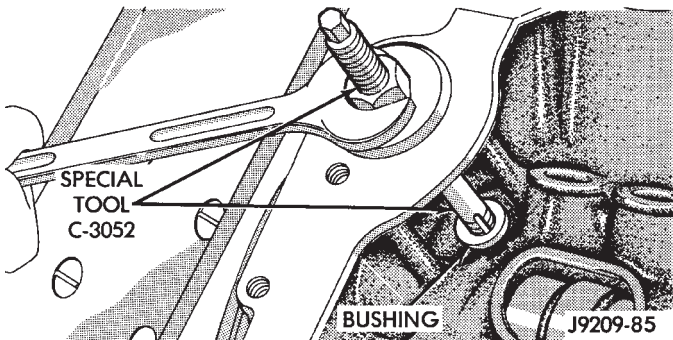

Fig. 27 Distributor Driveshaft Bushing Removal
- (1) Remove distributor. Refer to Group 8D, Ignition Systems for the proper procedure.
- (2) Remove the intake manifold. Refer to Group 11, Exhaust System and Intake Manifold.
- (3) Insert Distributor Drive Shaft Bushing Puller Tool C-3052 into old bushing and thread down until a tight fit is obtained (Fig. 27).
- (4) Hold puller screw and tighten puller nut until bushing is removed.